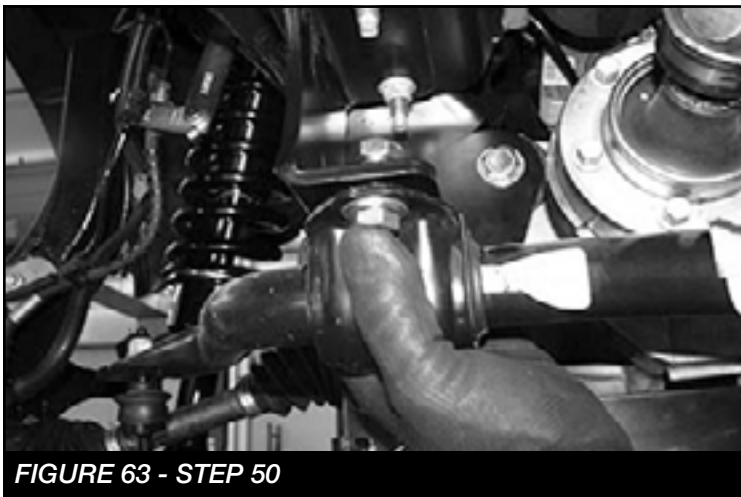

FIGURE 63 - STEP 50
51. Using the supplied 7/16" hardware install the factory sway bar to the new drop brackets. Next, reinstall the the end links to the new spindle using the factory hardware. Torque the factory and 7/16" hardware to 65 ft-lbs. **SEE FIGURE 63**